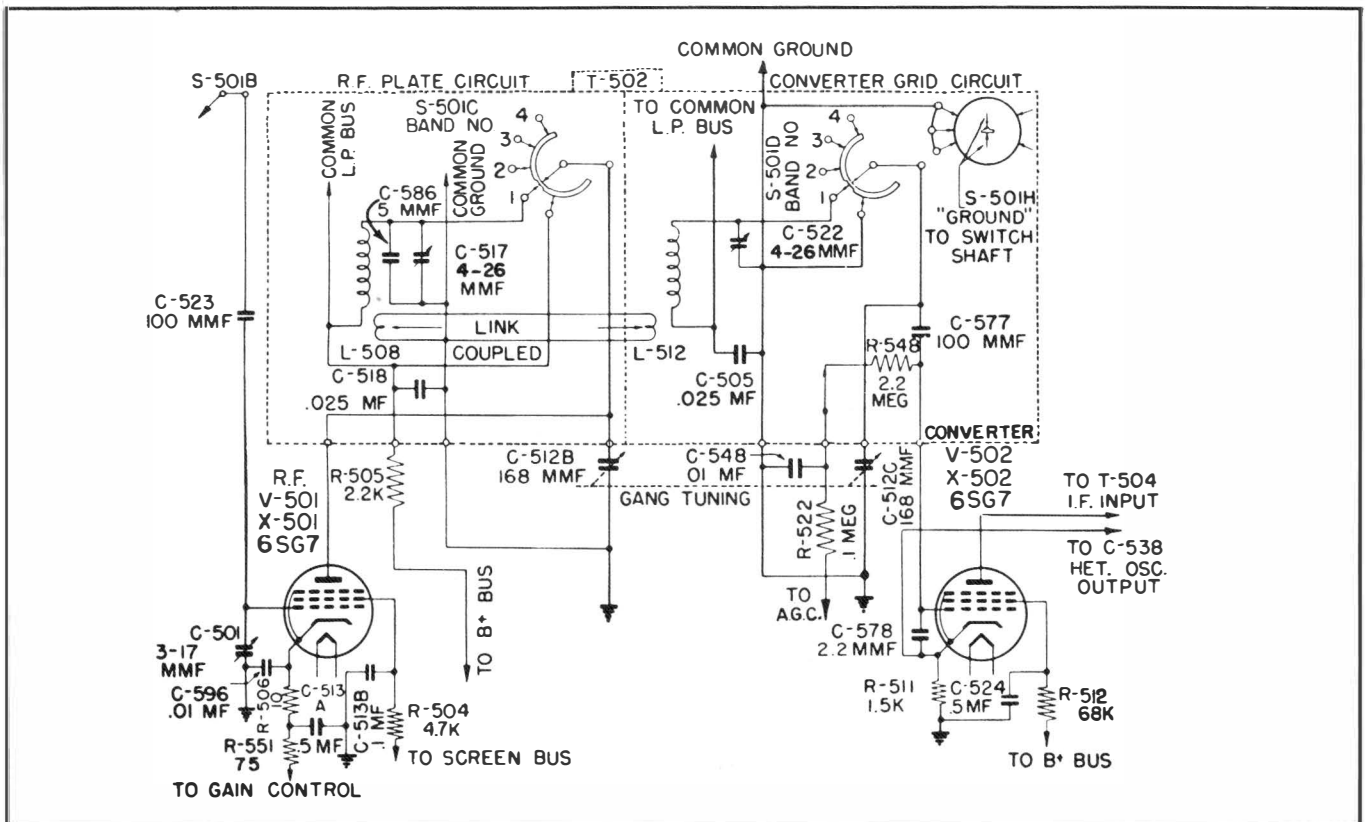

Figure 2-2. Radio Frequency Plate and Converter Grid Circuits
(1) General (See Figures 2-2 and 2-3).
(2) THE RADIO FREQUENCY AMPLIFIER (V-501) (See Figures 2-2 and 2-5).
(3) THE CONVERTER (V-502). (See Figures 2-2 and 2-3).